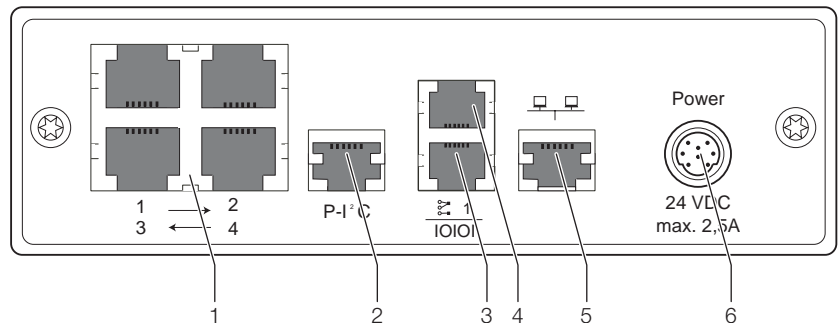

Fig. 46: Control unit of the Liquid Cooling Package Plus (Basic CMC) - rear
Four additional standard sensors can be connected to the control unit (Basic CMC) to monitor additional physical parameters of the Liquid Cooling Package Plus. The sensors must simply be connected to one of the four sockets on the rear of the control unit (Fig. 46, item 1) and configured via the Basic CMC.